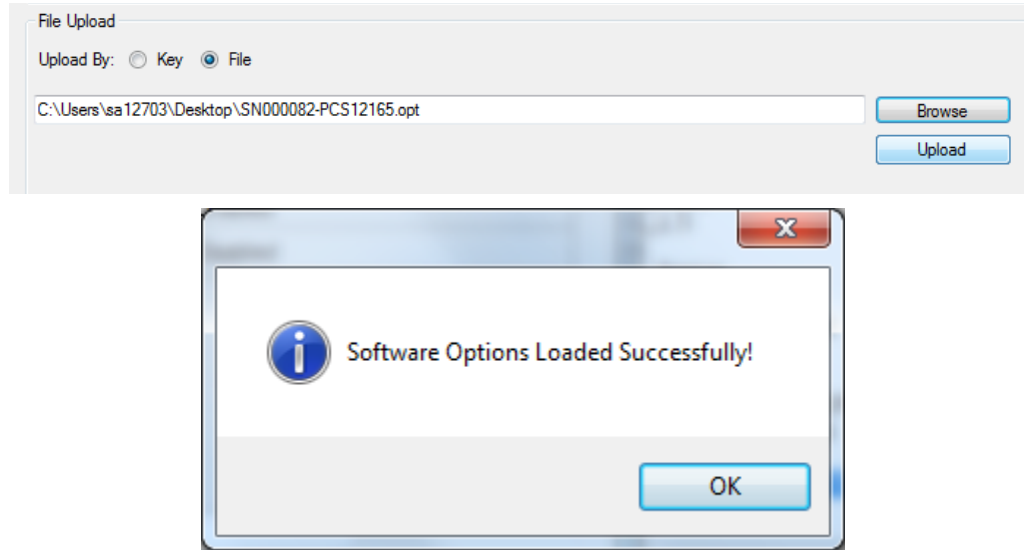

Figure 26: Software Options Window
6. Select the software options file. The path to the file appears in the upload field (see Figure 26).